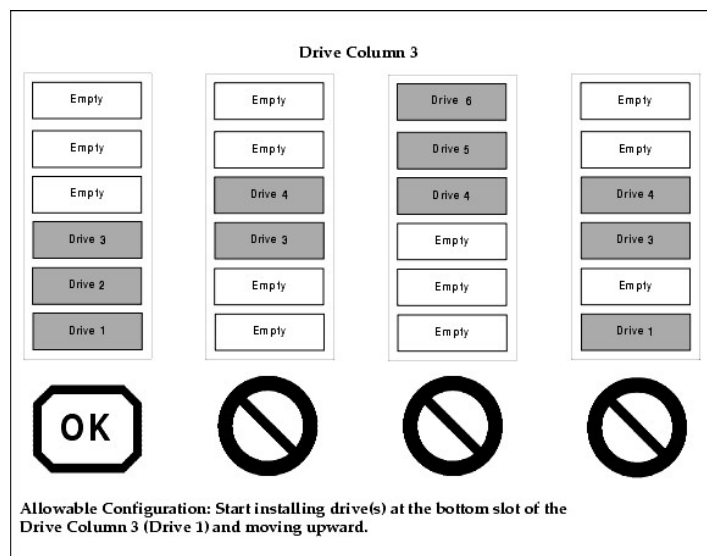
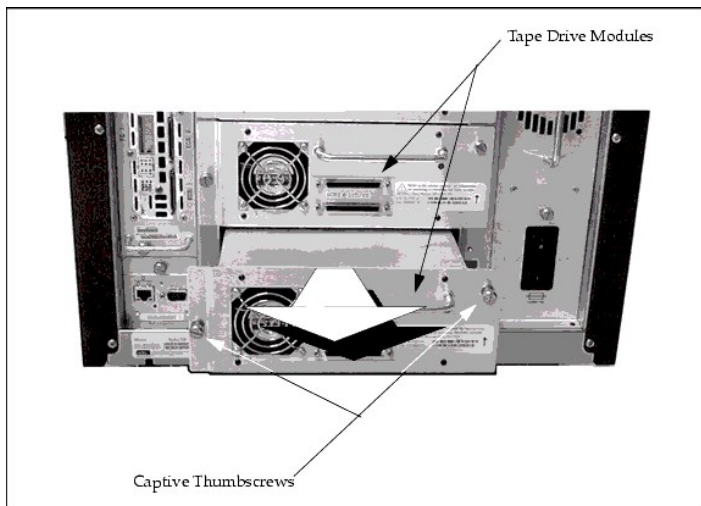

Figure 1. Tape Drive Module Installation Allowable Configuration
Figure 2. Installing a Tape Drive Module
Refer to Figure 1 and Figure 2.
**CAUTION:** It is mandatory that you install the first Tape Drive Module in the library in the bottom drive slot of the drive column (Column 3 - slot A) and additional Drive Modules occupying subsequent slots (B to F) as shown in Figure 1. If this configuration is not followed, the library will not be able to complete its initialization and the drive(s) are not recognized during the teaching process.